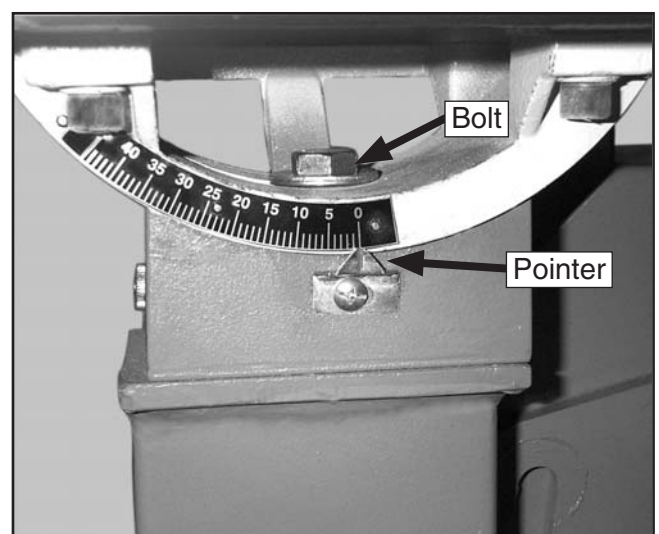

Figure 15. Large hex bolt in table trunnion.
2. Loosen the trunnion bolt in the center of the table trunnion, as shown in **Figure 15**.
- Loosen the screw on the pointer (**Figure 15**), but do not remove it.